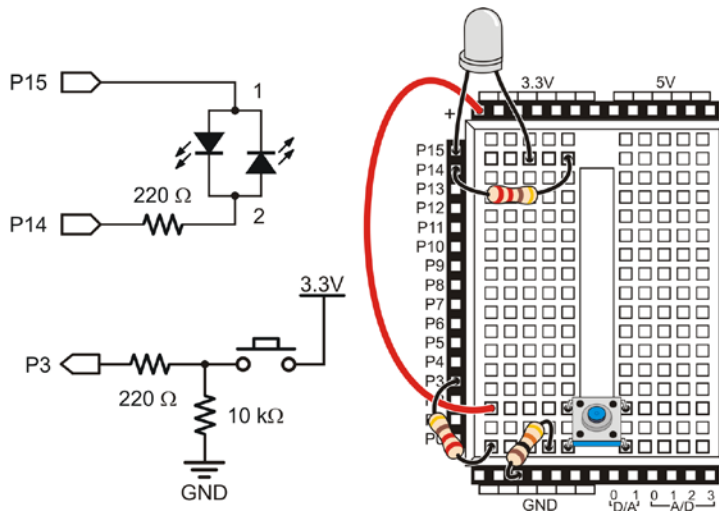

Figure 3-16
Figure 3-16 shows a schematic and wiring diagram for a circuit that can be used with the Propeller to make a reaction timer game.
- Build the circuit shown in Figure 3-16 on page 89.